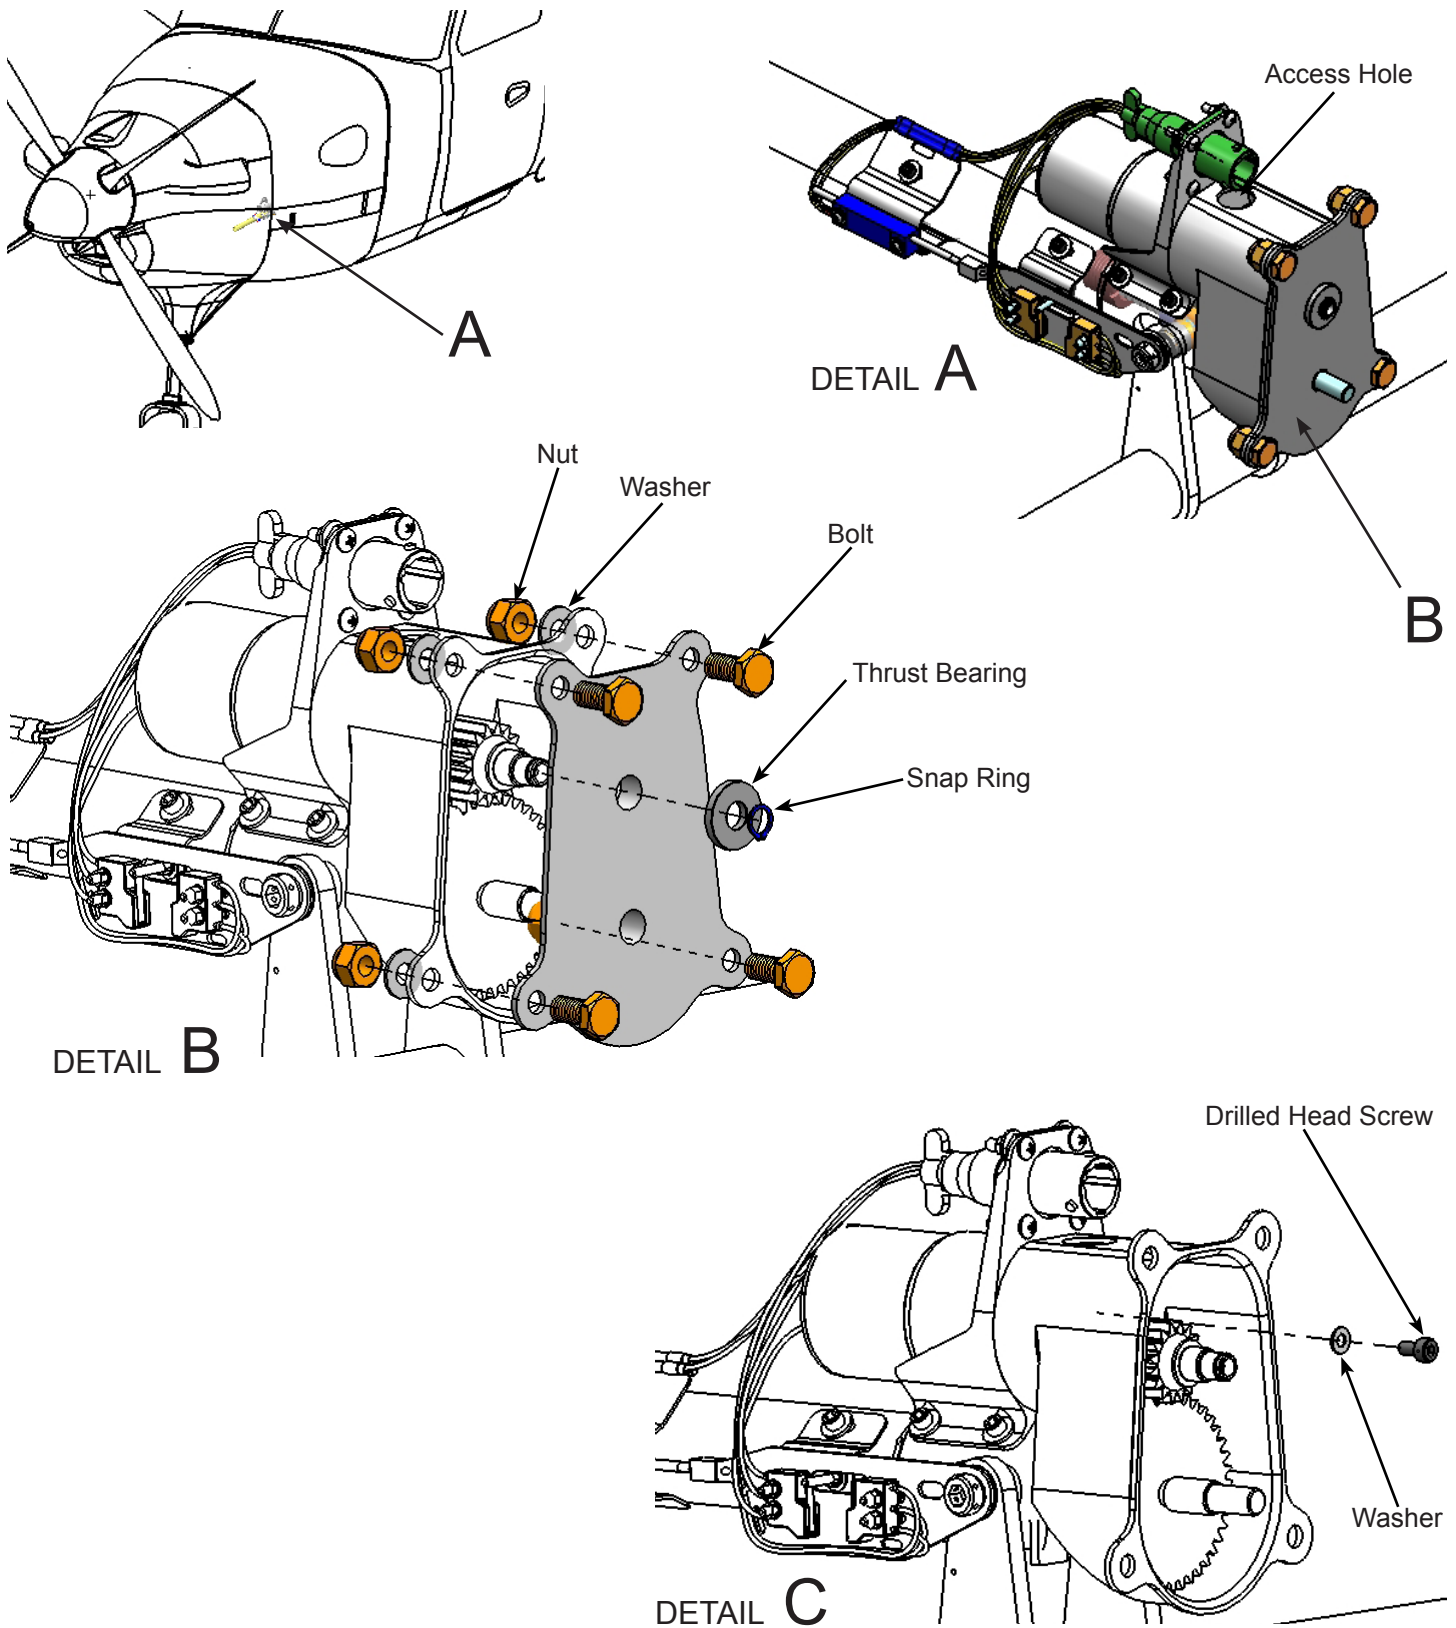

Figure 1-1: Rudder Trim Motor Inspection and Drilled Head Screw Replacement
Quest is mandating a one time inspection of the screws securing the rudder trim motor to the rudder trim gear box housing. Refer to **Figure 1-1**.
2. Disconnect the electrical connection located at the top of the rudder trim motor assembly as shown in **Figure 1-1, Detail A**.
- A. If drilled head screws are present, reconnect the electrical connection located at the top of the rudder trim motor assembly and contact Quest Customer Service for three (3) replacement parts (P/N **NA0274-030006**). Once replacement parts have been obtained, proceed to **Section 2**.
3. Loosen and remove the four (4) bolts (P/N **AN3-3A**), four (4) nuts (P/N **MS21044N3**) and four (4) washers (P/N **NAS1149F0332P**) securing the rudder trim gearbox cover plate (P/N **100-617-2183-D01**) into position.
4. Remove the snap ring (P/N **MS16624-1025**) and thrust bearing (P/N **MTI-04**) securing the rudder trim gearbox cover plate (P/N **100-617-2183-D01**) to the pinion drive motor, and remove the rudder trim gearbox cover plate (P/N **100-617-2183-D01**). Refer to **Figure 1-1, Detail B**.
5. Individually remove the three (3) screws (P/N **NA0274-030005H**) and three (3) washers (P/N **MS15795-803**) securing the small gearbox (P/N **100-820-6175**) to the mounting bracket (P/N **100-617-2176**). Apply a thread fastening/sealing agent, and reinstall the replacement screw (P/N **NA0274-030006**) and washer (P/N **MS15795-803**) before proceeding to the next screw.
6. Position the rudder trim gearbox cover plate (P/N **100-617-2183-D01**) and secure using the four (4) bolts (P/N **AN3-3A**), four (4) nuts (P/N **MS21044N3**), and four (4) washers (P/N **NAS1149F0332P**)